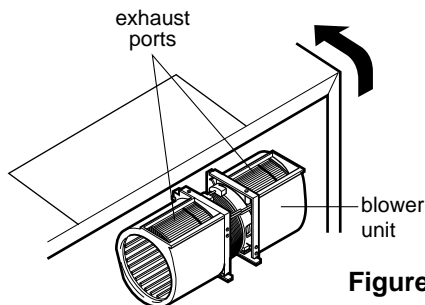

Figure 18
3. Rotate blower unit 90° so the exhaust ports face the front of the cabinet. See Figure 18.